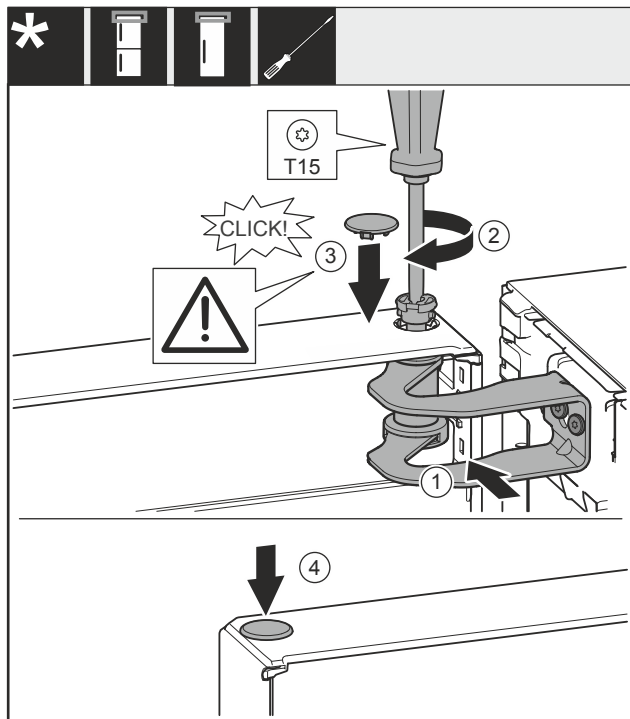

Fig. 22
- Align the door with the opening in the swap bearing block Fig. 22 (1).
- Insert the bolt Fig. 22 (2) and use screwdriver to tighten it.
- Insert the cover Fig. 22 (3).
- Check that the cover Fig. 22 (3) is resting on the door.
- Insert the cover Fig. 22 (4).